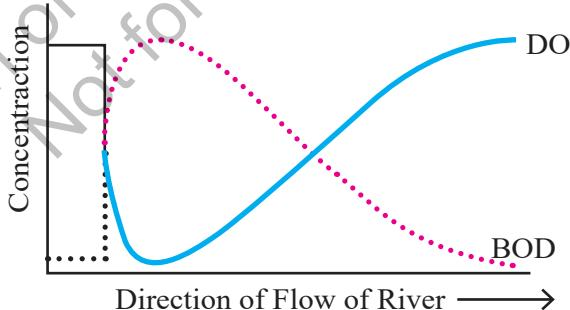

Figure 10.10 Inverse relationship between BOD and DO
Dissolved Oxygen (DO) and Biochemical Oxygen Demand (BOD) have an inverse relationship as shown in **Figure 10.10**. As bacteria consume oxygen in the water while decomposing organic matter, BOD increases, leading to lower dissolved oxygen (DO) level.